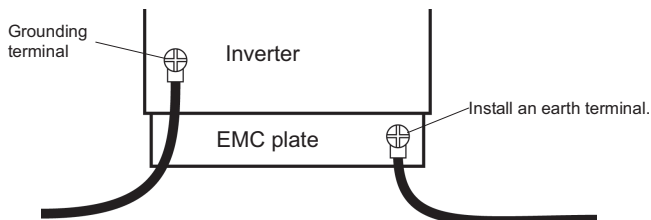

Fig. 4
- (1) Install the inverter in a cabinet and ground the inverter enclosure. When doing maintenance, be extremely careful not to put your fingers into the inverter through a wiring hole and touch a charged part, which may occur depending on the model and capacity of the inverter used.
- (2) Do not connect two or more wires to the main circuit earth terminal of the inverter. If necessary, install an additional earth terminal on the EMC plate on which the inverter is installed and connect another cable to it. (Refer to Fig. 4.) See the table of section 10.1.
- (3) Install a non-fuse circuit breaker on the input side of the inverter.